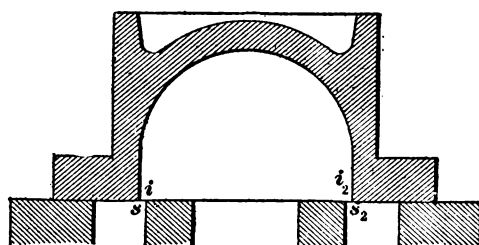

Fig. 26.
*Inside Clearance.*—When the valve stands midway of its travel, as shown in Fig. 26, and its inside edges  $i$  and  $i_2$  do not cover the steam ports, then the amount by which each edge of the valve comes short of the inner edges of the steam ports is called inside clearance; thus, the distance from  $i$  to  $s$ , or from  $i_2$  to  $s_2$ , represents inside clearance. The purpose of inside clearance is to hasten the release, and is sometimes adopted in very fast-running locomotives. It seldom exceeds  $\frac{1}{4}$  of an inch. Good judgment and great experience are required for determining the amount of clearance, and for deciding for what classes of locomotives it should be used. In ordinary passenger locomotives the valves have no inside clearance.